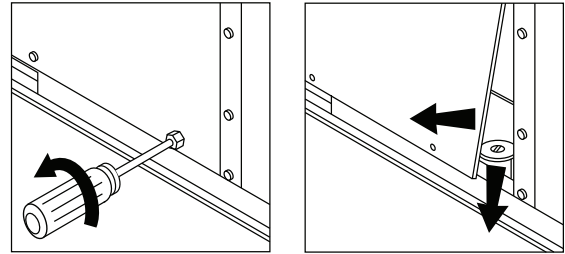

Fig. 15 - Gas Component Access Panel Removal
Step 4 — Remove the gas component access panel. For location of the gas component access panel, see Fig. 15.